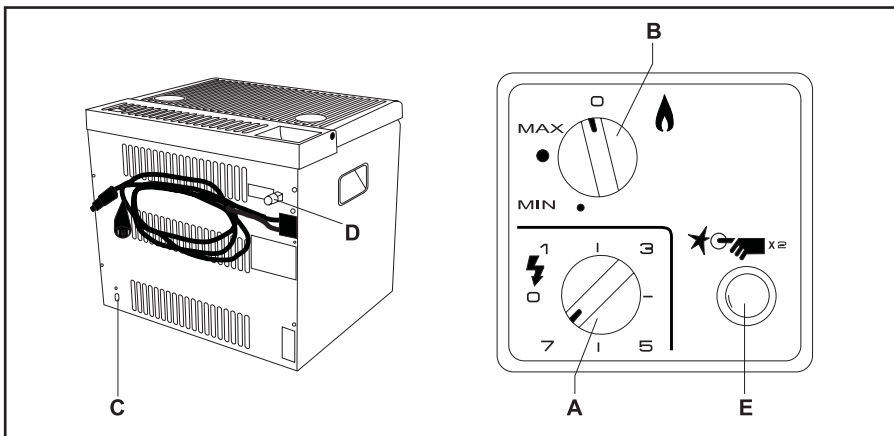

Fig. 1
10. Gas equipment system (Fig. 1)
11. Igniting the gas burner (Fig. 1)